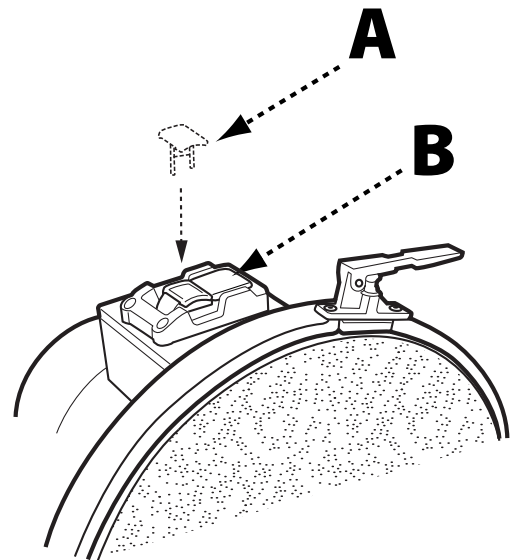

FIGURE 5
NOTE: The DELTA® 12" Disc Sander uses a Safety Key (A), shown in Figure 5. The Safety Key must be in place in order to operate the machine. Before attempting to turn on the sander, ensure the Safety Key is installed.
- The ON/OFF switch (B) is located on the top of the motor. To turn the sander "ON", move the switch toward rear of sander.
When the tool is not in use, the switch should be locked in the "OFF" position. This can be done by grasping the Safety Key (A), shown in Figure 5, and pulling it out of the switch. With the Safety Key removed the switch